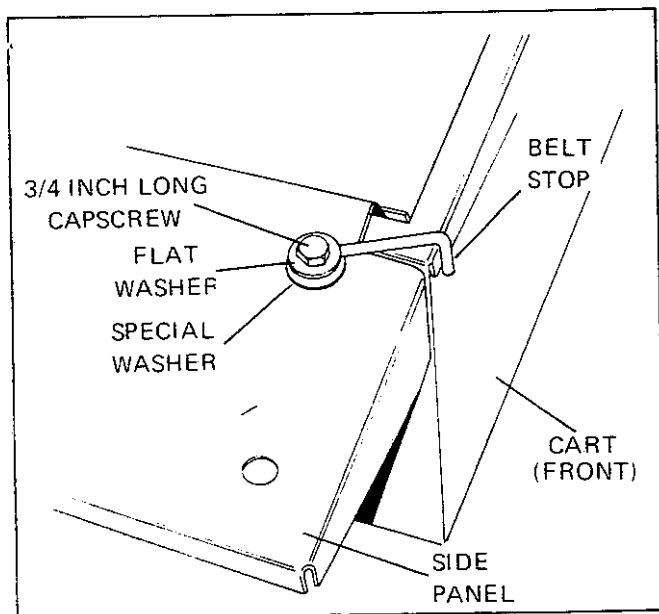

FIGURE 15
4. Secure belt stop to inside front of side panel with two flat washers (one above and one below side panel), special washer, 3/4 inch long capscrew, and locknut (Figure 15). Position belt stop at angle illustrated. Repeat procedure for remaining front corner.